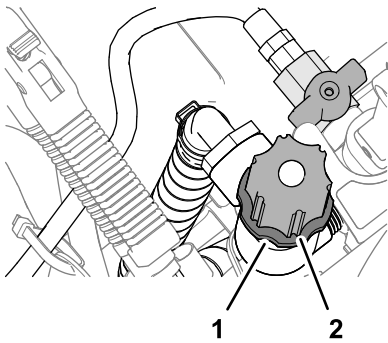

**Figure 34**
2. Ensure that the handles for the spray-control valves are in the OFF position (Figure 34).